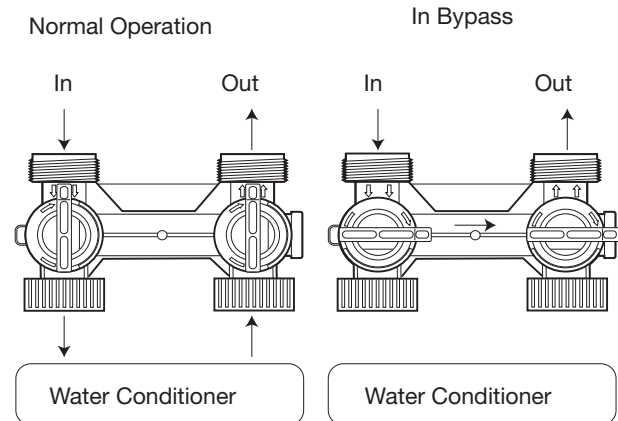

Figure 22: Hi Flow Bypass (Included)
- Turn the bypass valve to the “in bypass” position (Refer to Figure 22).